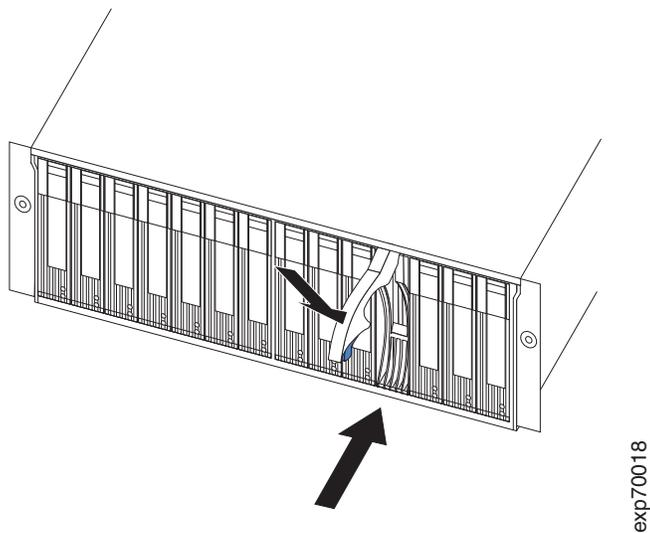

Figure 54. Closing the hot-swap hard disk drive tray handle
- d. Push the tray handle down into the closed (latched) position, as shown in Figure 54.
- b. Push the tray handle down into the closed (latched) position, as shown in Figure 54 on page 67.